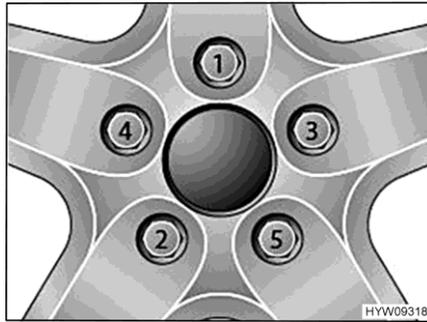

Fig. 67 Tightening the wheel nuts or wheel bolts cross-wise
- Tighten the wheel nuts or wheel bolts in the order shown in Fig. 67. In order to do this, use a torque wrench and comply with the specified tightening torque (see section 14.5).
- Check regularly that the wheel nuts or wheel bolts are firmly seated. Re-tighten the wheel nuts or wheel bolts of a changed wheel after 50 km (30 miles). While doing so, proceed in the order shown in Fig. 67.
- When using new or newly painted rims, re-tighten the wheel nuts or wheel bolts once again after approx. 1,000 to 5000 km (600 miles to 3,000 miles). While doing so, proceed in the order shown in Fig. 67.